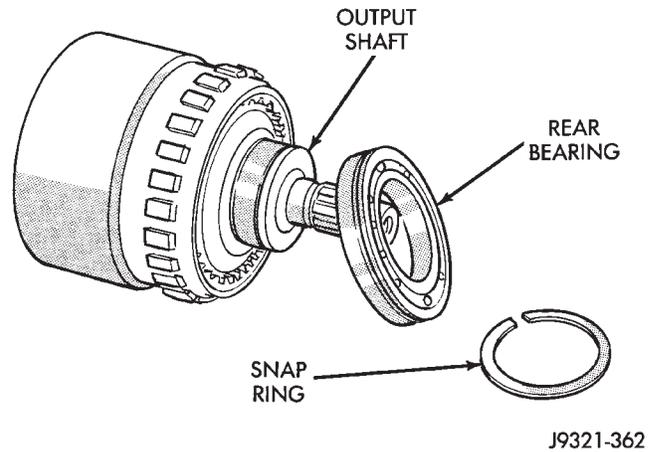

Fig. 221 Rear Bearing Removal
(7) Remove snap ring that retains rear bearing on output shaft.
(8) Remove rear bearing from output shaft (Fig. 221).